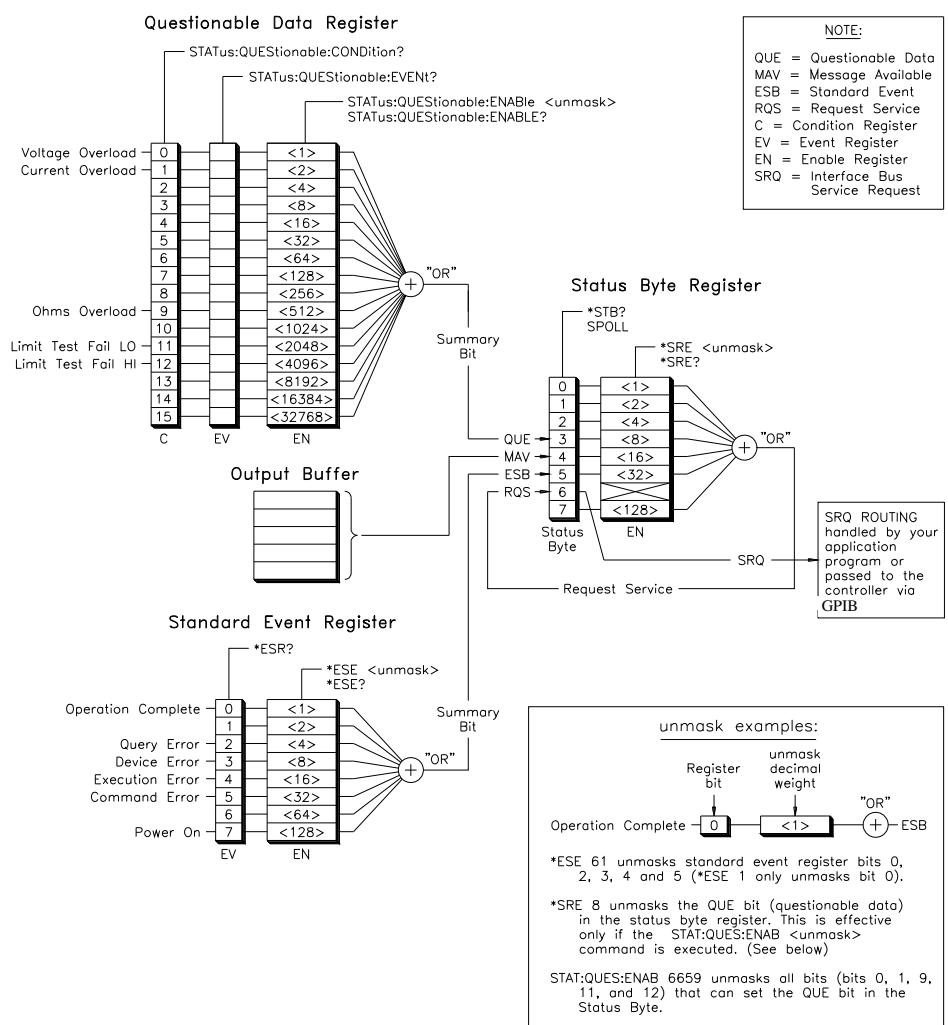

Figure 2-5. E1412A Multimeter Status System
**NOTE: This is the E1476A Switch Module's status system. See Figure 2-5 for the E1412A Multimeter status system.**
Figure 2-5 illustrates the E1412A status system. A Questionable Data Register, an Output Buffer and a Standard Event Register each have a respective status bit in the Status Byte Register. The Output Buffer sets the MAV bit when there is data available such as measurement readings or a response to a SCPI query command. The Questionable Data Register and Standard Event Register require you to “unmask” the bits you want to be OR'd into a summary bit which sets the respective bit in the Status Byte. You must also “unmask” the status bits you want OR'd into a summary bit to set the Service Request bit (SRQ) if you want to generate an interrupt. The example programs illustrate this requirement.
This program has the multimeter take 10 measurements. The Standard Event bit (ESB) in the status byte (see Figure 2-5 on page 60) is monitored to detect when the operation is complete. Readings are transferred to the output buffer by a FETC? command and retrieved by the computer following the indication that the operation has completed. The Multimeter then calculates the average, minimum and maximum reading.
This program has the multimeter take 10 measurements just like SYNCHOPC. Readings are transferred to the output buffer by a FETC? command. The Message Available bit (MAV) in the status byte (see Figure 2-5 on page 60) is monitored to detect when the measurements are complete and the Multimeter has readings in the output buffer. Readings are retrieved by the computer when the MAV bit in the status byte indicates the measurements are complete and readings are available. The Multimeter then calculates the average, minimum and maximum reading.